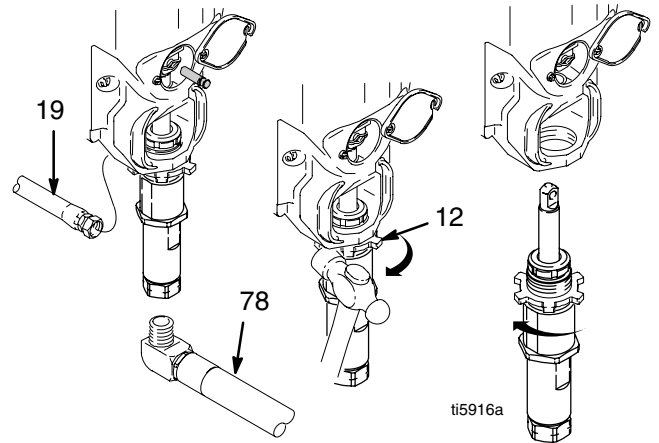

Fig. 11
5. Fig. 11. Remove suction tube (78) and hose (19).
6. Loosen pump jam nut (12). Unscrew pump.
5. Fig. 11. Install suction tube (78) and hose (19).